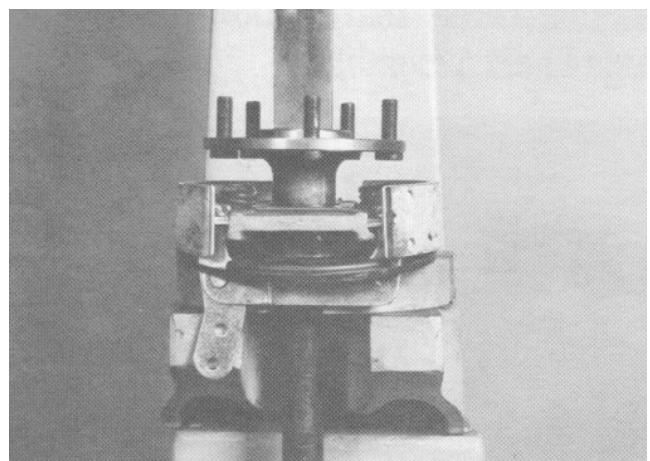

Figure 13
10. Press the assembly until the bearing is firmly seated against the axle shaft shoulder (Fig. 13).